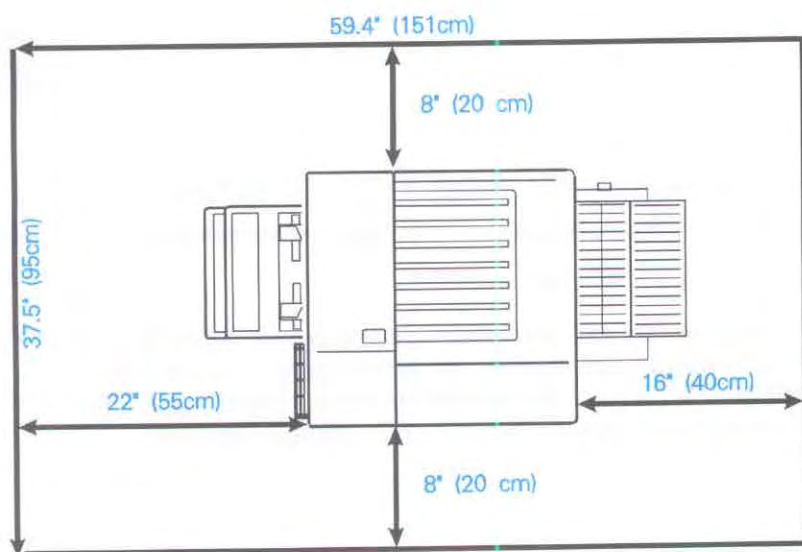

Figure 2-1. LaserJet III/4Si Space Requirements
- Install the printer away from walls or other objects. There must be enough space around the printer for proper access and operation (see Figure 2-1).